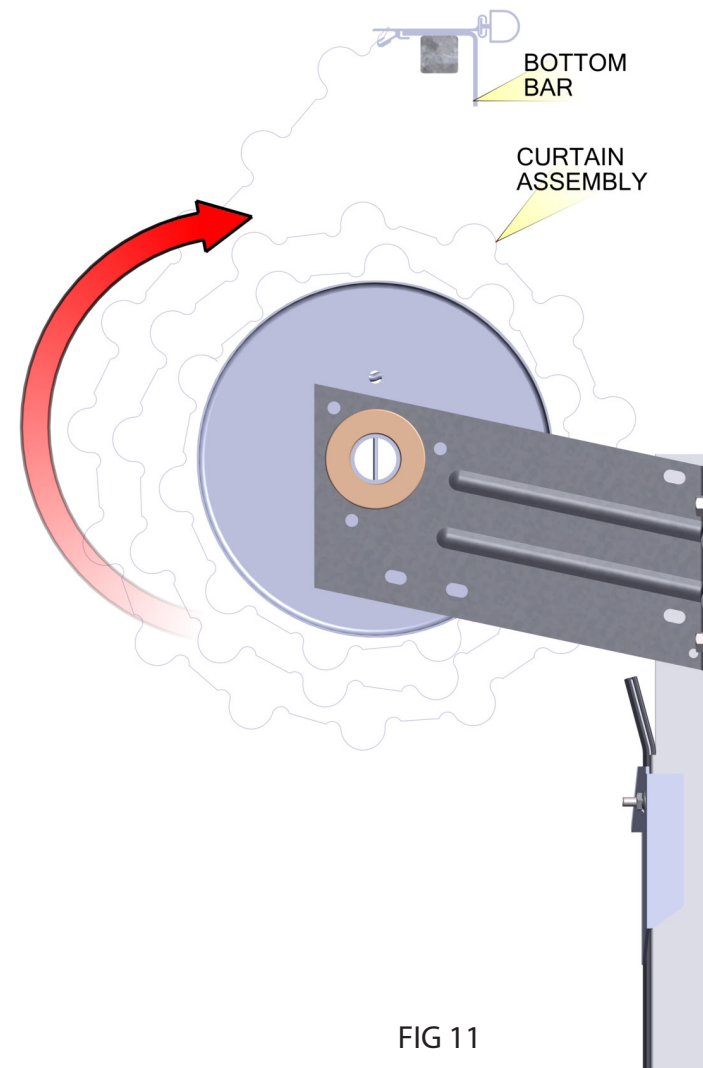

FIG 11
- Starting with the bottom bar at the top of the curtain roll, apply two complete turns of pre-tension to the spring by rotating the curtain roll in the direction shown. See FIG 11. The amount of tension required may vary slightly. Final adjustment, if necessary, will be made in STEP #7.